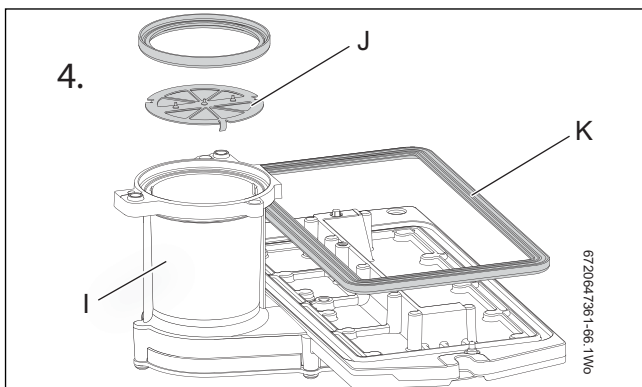

Fig. 83 Diaphragm
- Remove the burner (H).
- Ensure that a new seal (K) is used, refer to fig. 83.